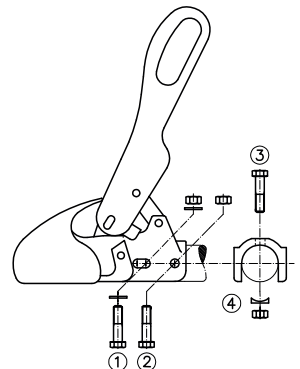

Fig. 3: Connection
The WS 3000-H/LB are specially designed for inertia braking systems and are fitted with crossways screw connection (1)+(3) and 40 mm hole spacing (Fig. 3). The fastening material is not included with the product.
2.2 If the WS 3000/3500 coupling is being used as replacement for another type of coupling, attention must be paid in respect of the overrun device that the shock absorbers are correctly fitted and that any spacers in the drawbar are correctly reinstalled. With the WS 3000-D, please use the provided \varnothing 12x34 mm or \varnothing 12x49 mm bolts to assist with this depending on the size of the drawbar diameter. Use \varnothing 14x63 mm bolts for the WS 3500-D. Please use the provided \varnothing 12x34 mm or \varnothing 12x49 mm bolts as to assist with this depending on the size of the drawbar diameter. Use bolts to push through when removing the fastening screw (2) or (3) (Fig. 3) depending on the type of shock absorber fastening, and insert in the drawbar for centering the shock absorber when connecting/dismantling the ball coupling. Remove the bolt again when inserting the new fastening screw.